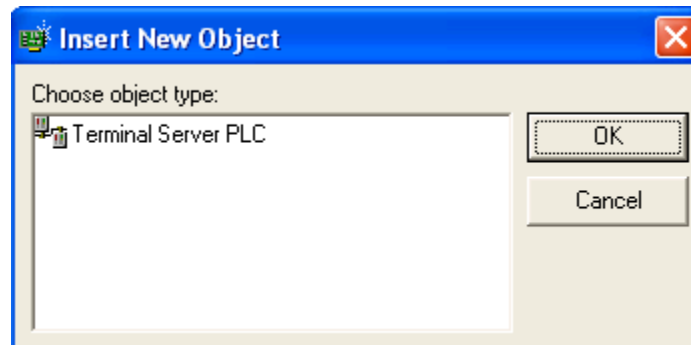

Figure 13 - Insert New Object
- The **Insert New Object** window (Figure 13) appears.